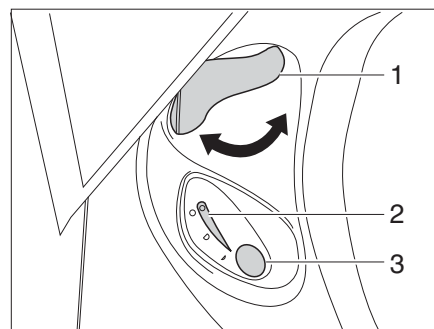

Fig. 152 Operating unit Thetford toilet
- Before flushing open the sliding trap of the Thetford toilet. To do this, turn the slide lever (Fig. 152,1) anticlockwise.
- For flushing, press the blue flush button (Fig. 152,3).
- After flushing close the sliding trap. To do this turn the slide lever (Fig. 152,1) clockwise.
The indicator lamp (Fig. 152,2) goes on whenever the Thetford cassette has to be emptied.
- Turn the slide lever (Fig. 152,1) clockwise. The sliding trap is closed. To empty, the sliding trap in the Thetford toilet **must** be closed.